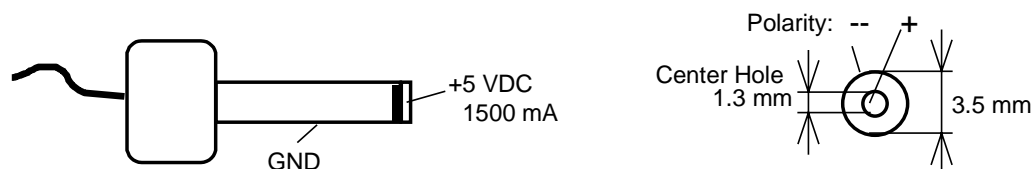

Figure 3: Power Connector
- Using the included power adapter, connect the power socket on the board (X1) to a power supply (refer to *Figure 3* for the correct polarity).